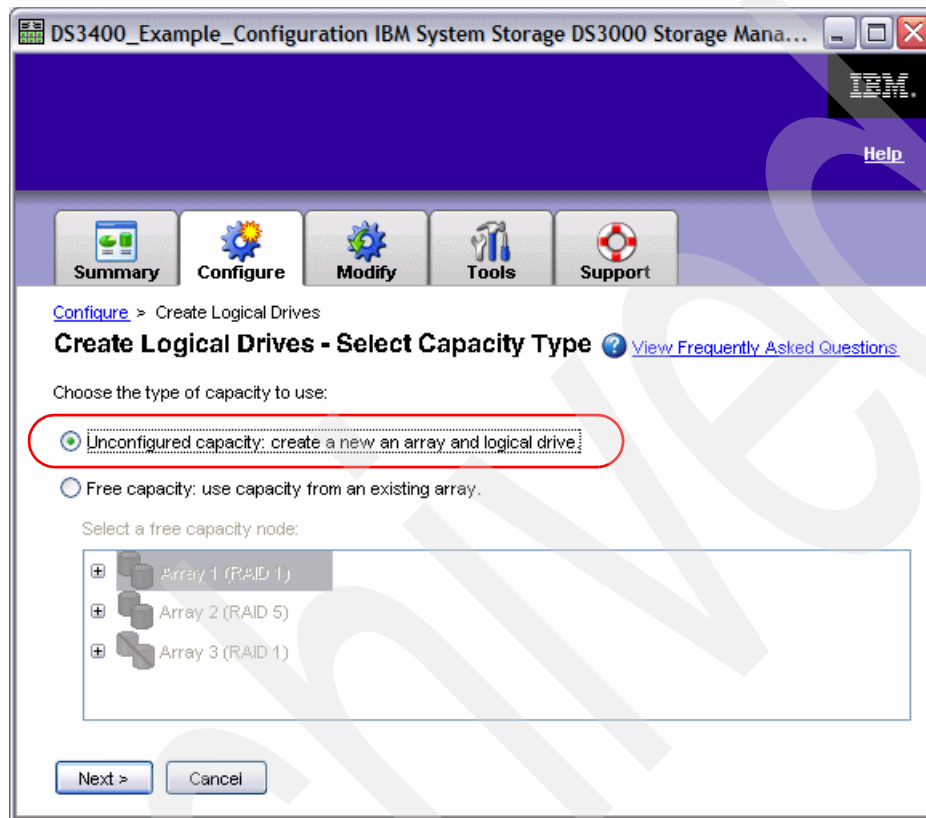

Figure 26-13 Select Capacity Type
2. Select the capacity type, as shown in Figure 26-13.